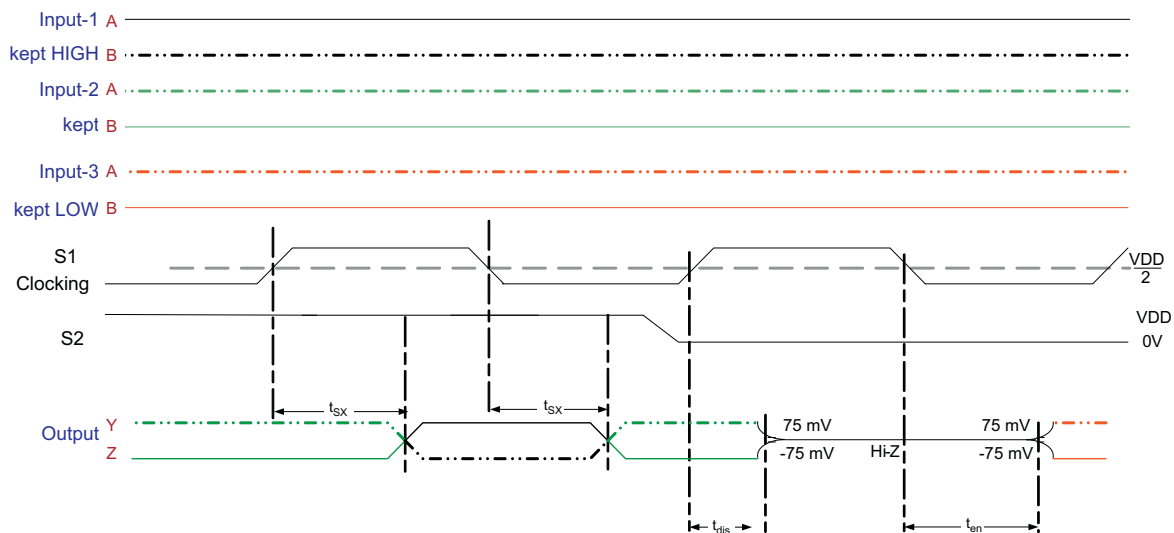

Figure 6. TMD5 Outputs Control Timing Definitions
- A. Channels 2, 3, 4, $V_{CC} = AV_{CC} = 3.3\text{ V}$, $T_A = 25^\circ\text{C}$, $R_{VSADJ} = 4.02\text{ k}\Omega$, See Figure 6
$R_{VSADJ} = 4.02\text{ k}\Omega$, See Figure 6
- A. 1080p 10-Bit, $V_{CC} = AV_{CC} = 3.3\text{ V}$, $T_A = 25^\circ\text{C}$, $R_{VSADJ} = 4.02\text{ k}\Omega$, See Figure 6, Clock Channel = 185.6 MHz, Data Channel = 1.856 Gbps
- A. 1080p 12-Bit, $V_{CC} = AV_{CC} = 3.3\text{ V}$, $T_A = 25^\circ\text{C}$, $R_{VSADJ} = 4.02\text{ k}\Omega$, See Figure 6, Clock Channel = 222.8 MHz, Data Channel = 2.228 Gbps